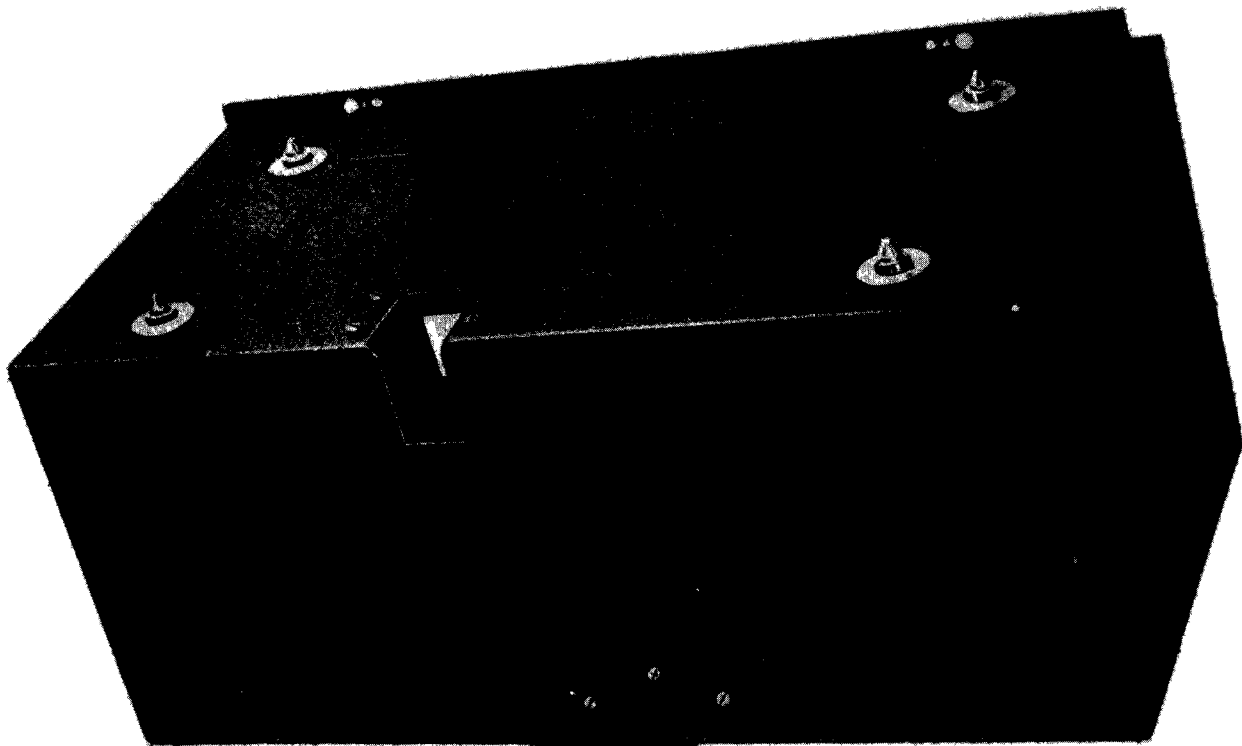

Figure 2 — Bottom and Back View of Cabinet
out in the rear bottom permits the entrance of Plug PL-P103 or PL-Q103. An aluminum casting is mounted over this cutout and acts as a seal between the cabinet and the chassis. The bottom of the cabinet is reinforced by a stainless steel plate to which are attached the four mounting studs for securing the cabinet to the mounting. Two snap slides are mounted on the downward projection of the front of the stainless steel plate. (See fig. 2.)
f. MOUNTING OF RECEIVER.—When proper wiring connections have been made, place the receiver on its mounting with the studs on the bottom of the cabinet entering the slots of the mounting. See that the cabinet is well down on the mounting and that all four studs are fully seated, then push the cabinet towards the rear and secure in place by the snapslides on the lower front corners of the cabinet. (See fig. 2.)